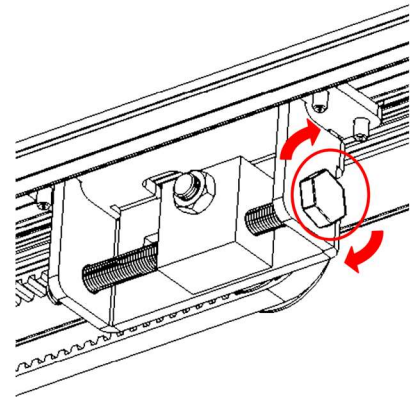

Figure 36: Tighten the belt with the tensioning bolt.
6. Turn the tensioning bolt **clockwise** (Figure 36) to put tension on the belt. **Stop when the belt is pulled straight** and does not sag.